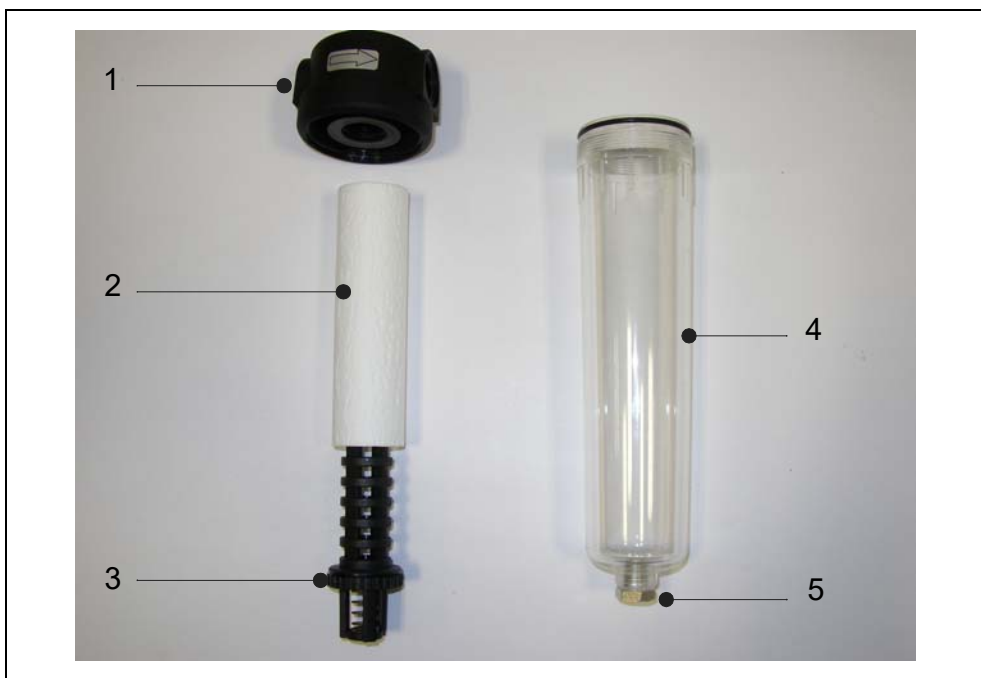

Fig. 9-5 Filter insert exhaust filter
- Manually loosen the filter holding screw Fig. 9-5/3, take out the filter insert and properly dispose of it.